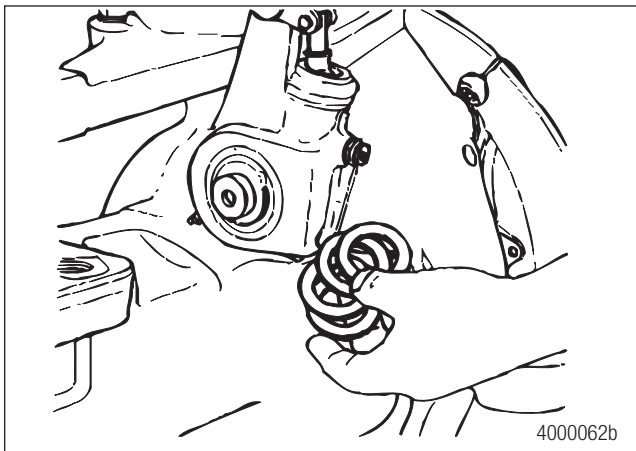
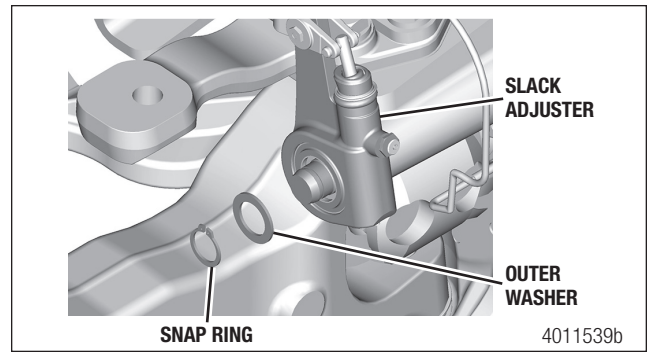

Figure 8.35
Figure 8.36
3. Install the slack adjuster washers at the adjuster end of the camshaft. Figure 8.35 and Figure 8.36. Use as many washers as required to keep slack end play at 0.060-inch (1.5 mm) maximum.